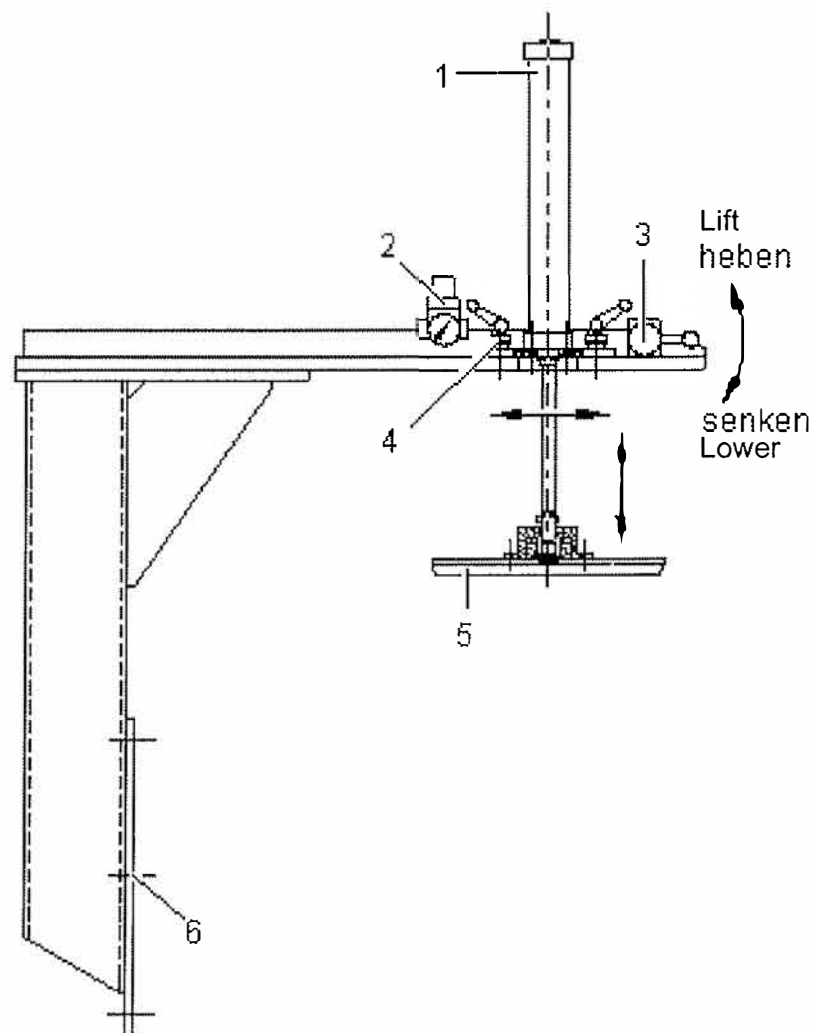

Figure 7.7
- (3) Move pressure weights to the upper end position using the control valves (see Figure 7.7).
- (4) Plug the machine's mains lead into a socket which provides the mains voltage specified in the technical data.